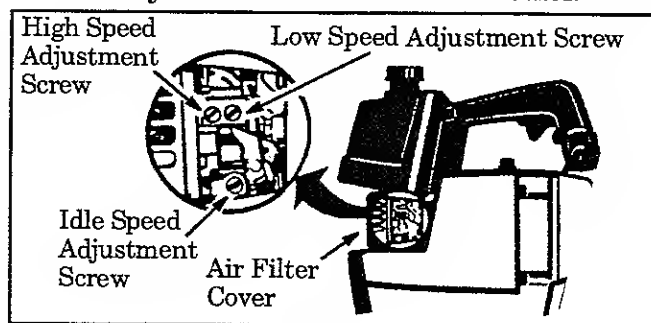

Figure 29
- a. Turn the low speed mixture screw and the high speed mixture screw (Figure 29) clockwise until they stop. *Do not turn the screws until they are tight as damage to the needle seats can occur.*
2. Adjust idle speed screw (Figure 29) until the engine continues to run without stalling and without blade or trimmer head moving.
- b. If the engine does not accelerate smoothly, turn the low speed mixture screw (Figure 29) counterclockwise a small amount (no more than the width of the slot in the adjusting screw).
2. Turn the low speed mixture screw (Figure 29) slowly clockwise until the speed starts to drop. Note this position.
3. Turn high speed mixture screw (Figure 29) very slowly clockwise until engine speed is reduced.